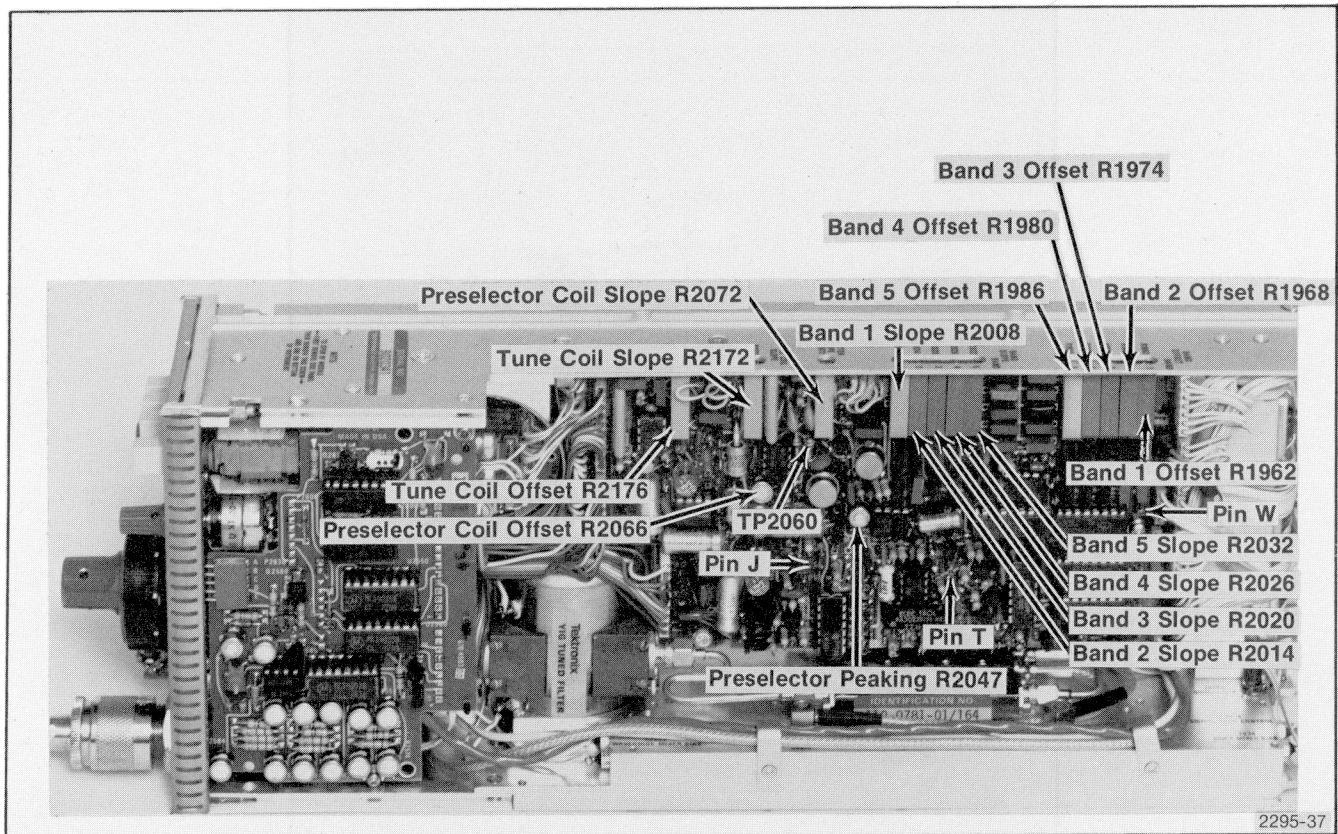
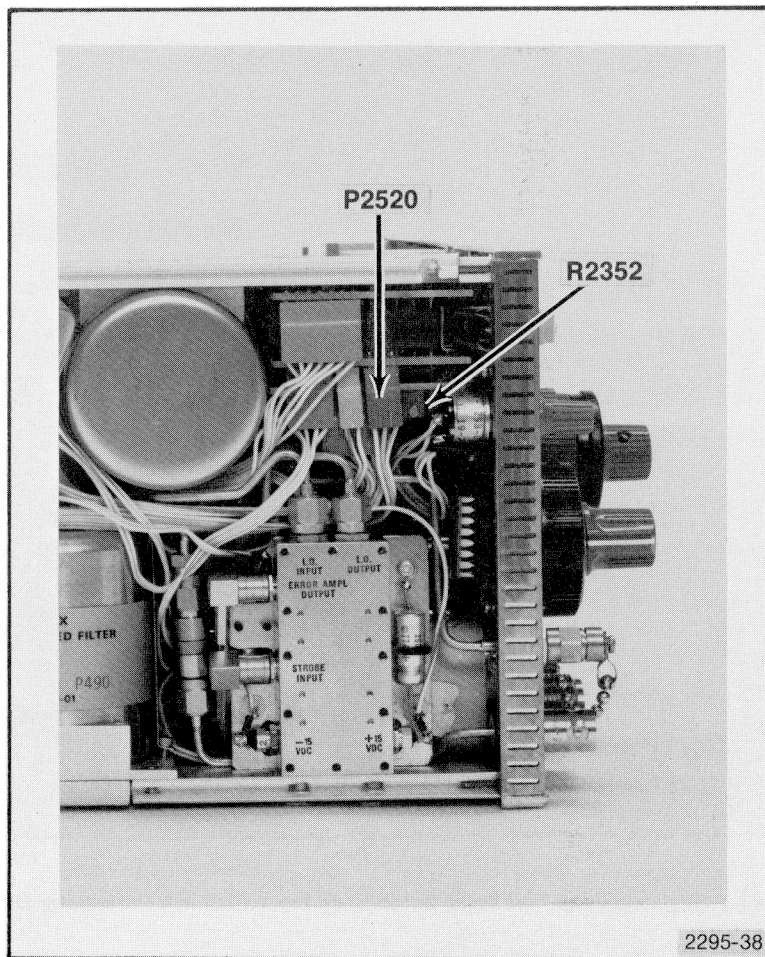

Fig. 4-29. Adjustments and Test Point Location on the 1st LO and Preselector Driver.
Fig. 4-30. Location of Reference Voltage Adjust and P2520.
d. Adjust Sweep Gain, R1308, and Sweep Centering, R1312 (see Fig. 4-30) for a 22 volt ramp centered at 0 volt.
c. Adjust Tune Coil Slope R2172 (see Fig. 4-29) for 100 MHz markers per division. If using the Cal Out signal, adjust for 500 MHz per five divisions.
d. Using a DVM or a dc-coupled test oscilloscope, adjust RF Voltage (Adj R2352) on the Reference Voltage board (see Fig. 4-30) −10.0 volts between pin W and Tune Ref Gnd (pin J) on the Preselector Driver board (see Fig. 4-29).
e. Change the FREQ SPAN/DIV to 2 MHz and measure the voltage at pin T of the Preselector Driver board (see Fig. 4-29). Adjust CENTER FREQUENCY control for a reading of 0 volt (center frequency is not at the center of the band, or 2.490 GHz).
f. Adjust Tune Coil Offset R2176 (see Fig. 4-29) so the 2.5 GHz marker is on the far right graticule line. This is 10 MHz above center.
2. With the FREQ SPAN/DIV at 2 MHz and the CENTER FREQUENCY set for 0 V at pin T of the Preselector Driver (see Fig. 4-29), the display should contain both the 2.5 GHz calibrator signal and its lower image response.
3. Press and release DEGAUSS, then adjust Tune Coil Offset R2176 (see Fig. 4-29) to position the 2.5 GHz marker on the far right graticule line.